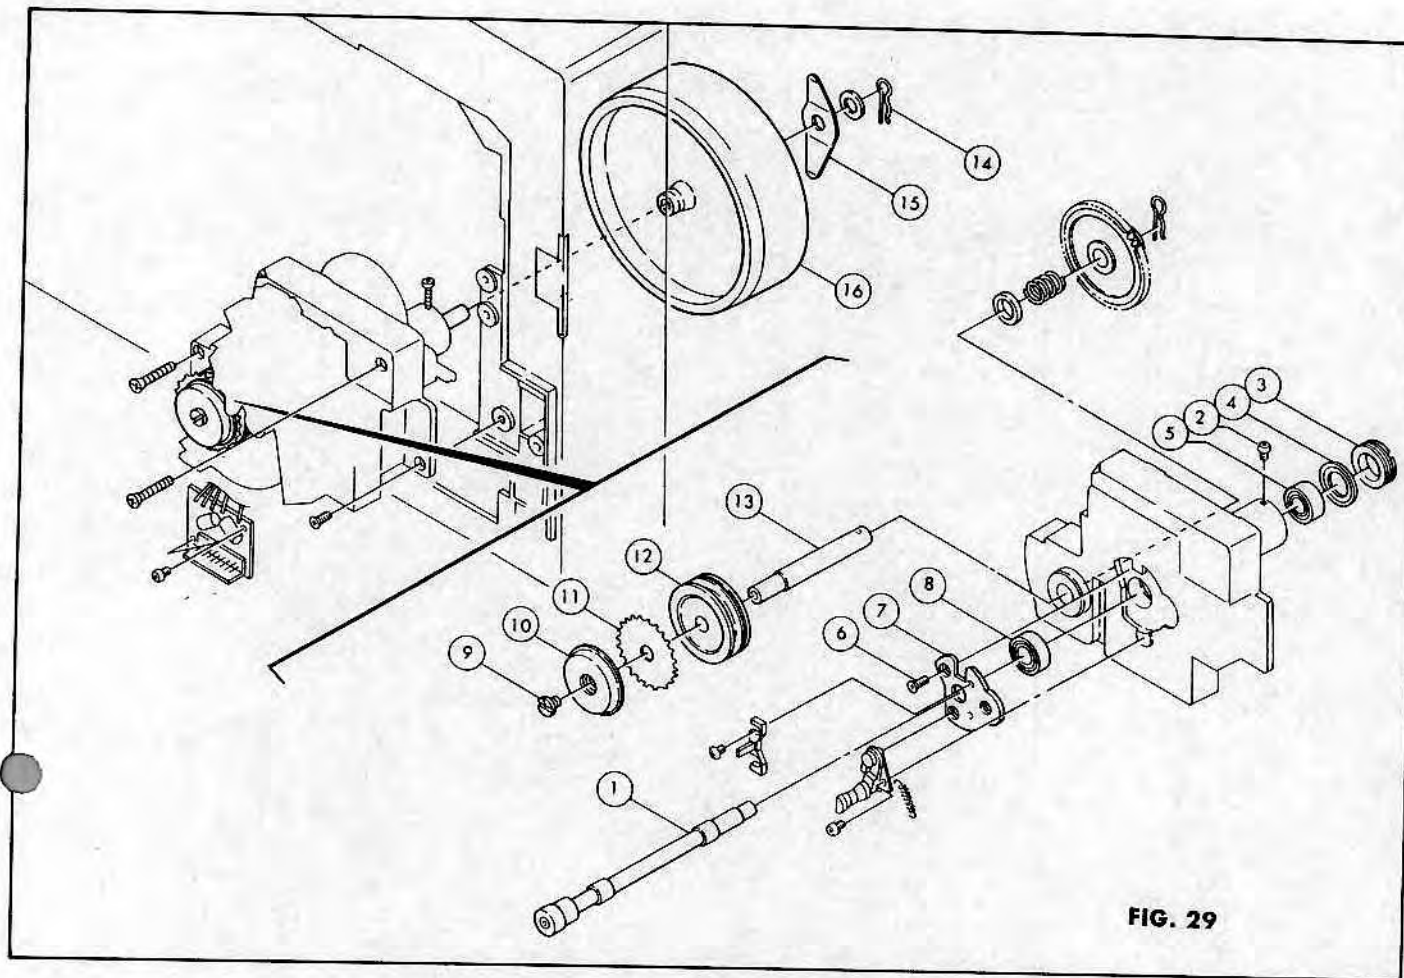

FIG. 29
TROUBLESHOOTING: (Refer to Fig. 29)
2. Loosen the (2) and remove the (3) by turning it counterclockwise.
3. For further disassembly, refer to Fig. 29.